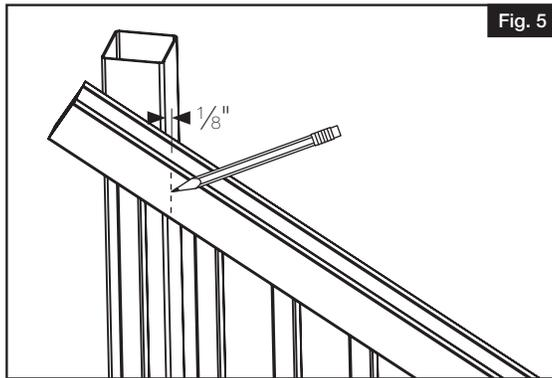

Fig. 5
- b. Trace the post onto each rail (both ends of top and bottom rails). Make four marks in total being sure to mark $\frac{1}{8}$ " shorter to allow for expansion (Fig. 5).